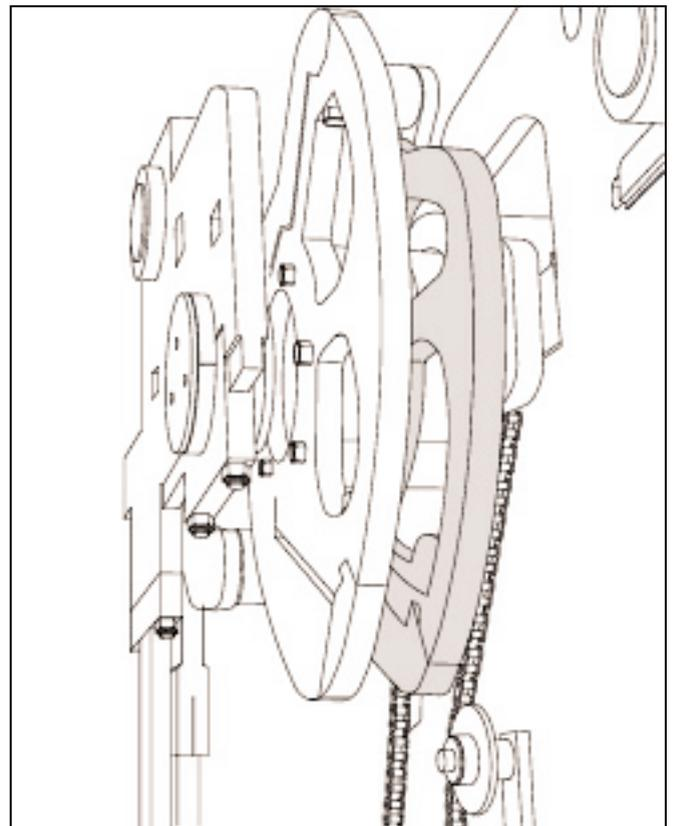

Figure 7.4 STRIPPER HEAD RAISING CAM.
- 7.3 Run the machine to "second stop" position which is controlled by the rotary sensor. The roller should be centered with the "second stop" marks on the pallet receiver cam. "Second stop" is the point where the stripper head shaft roller just falls off the high lobe of the stripper head raising cam. The stripper head raising cam is the second cam from the outside on the right side of the machine (see figure 7.4). The "rotary sensor value" should be indicating 180° at this point.